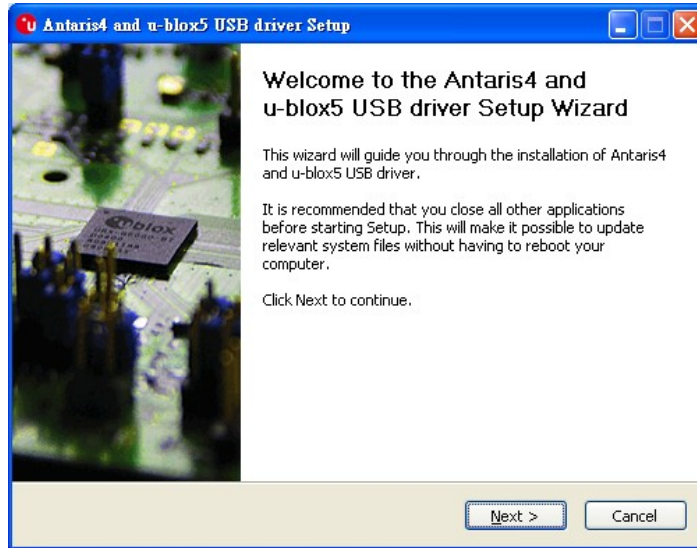

Figure 5-31: GPS Driver Welcome Screen
- Step 5:** The **Welcome** screen in **Figure 5-31** appears.
Step 4: The **Welcome Screen** in **Figure 5-31** appears.